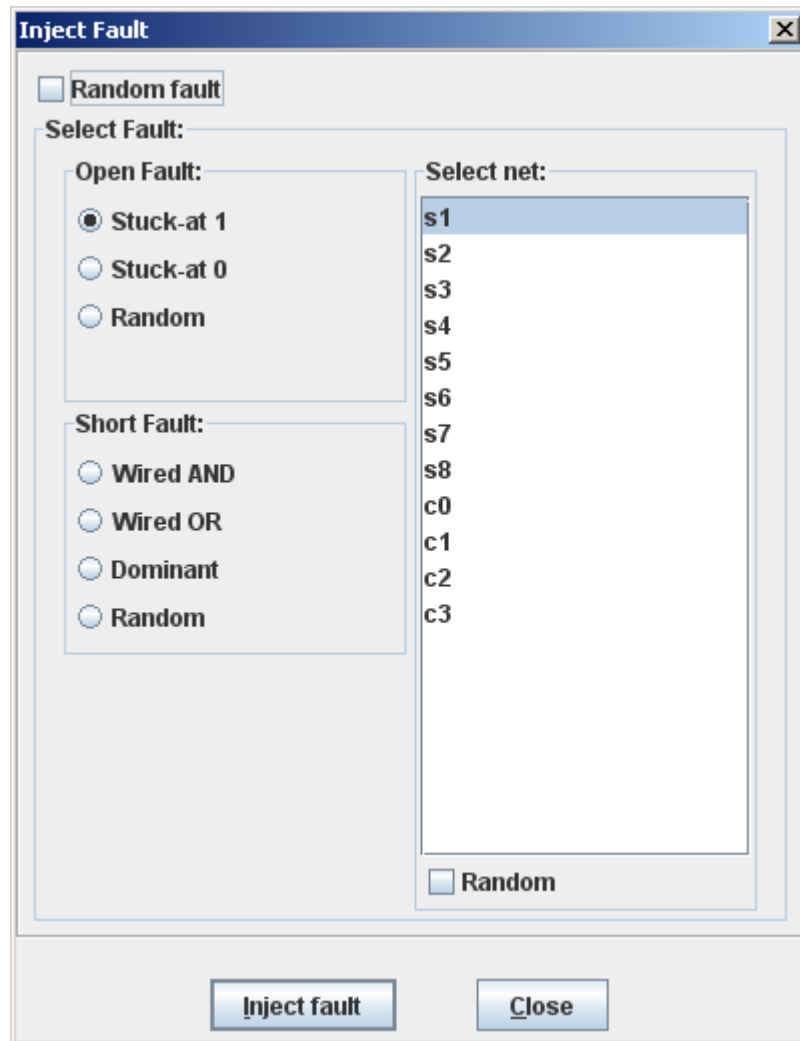

Figure 12
*Inject Fault Dialog* is shown in Figure 12. User is able to insert a completely random fault or choose the type of fault from the list.